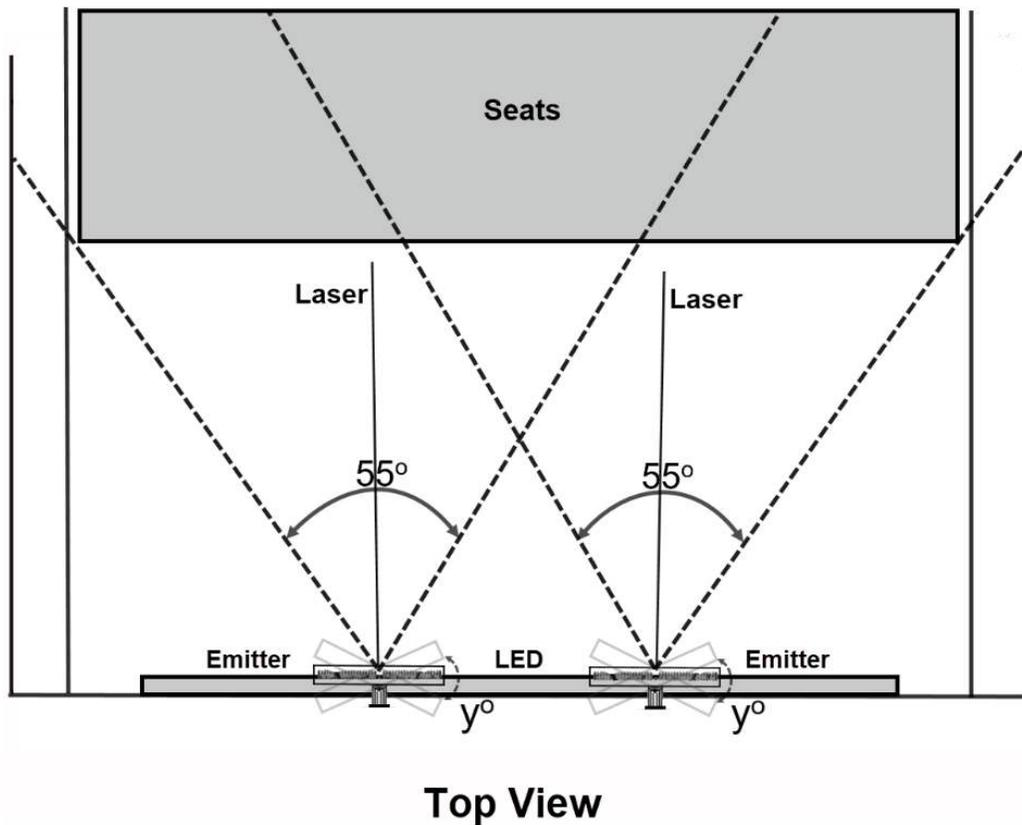

Figure 3: Placement of Emitters – Top View
- As seen in the top view representation in **Figure 3**, the two Emitters should be placed equidistant from the right & left edges of the LED screen respectively. Please take into account the positioning of the Left, Centre, Right screen speakers.